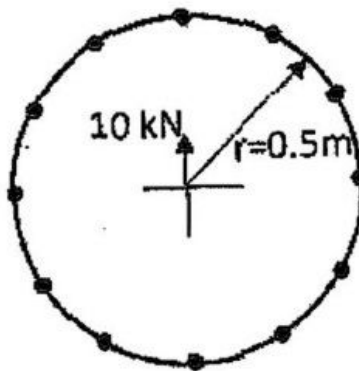

figure 16 (a)
16. (a) A fuselage bulkhead of 1 m diameter has 12 stringers equally placed around the section given in figure 16 (a). Each stringer area is 6.25 cm². The bulk head is subjected to a symmetrical load of 10 kN. Find the shear flow around the bulk head.